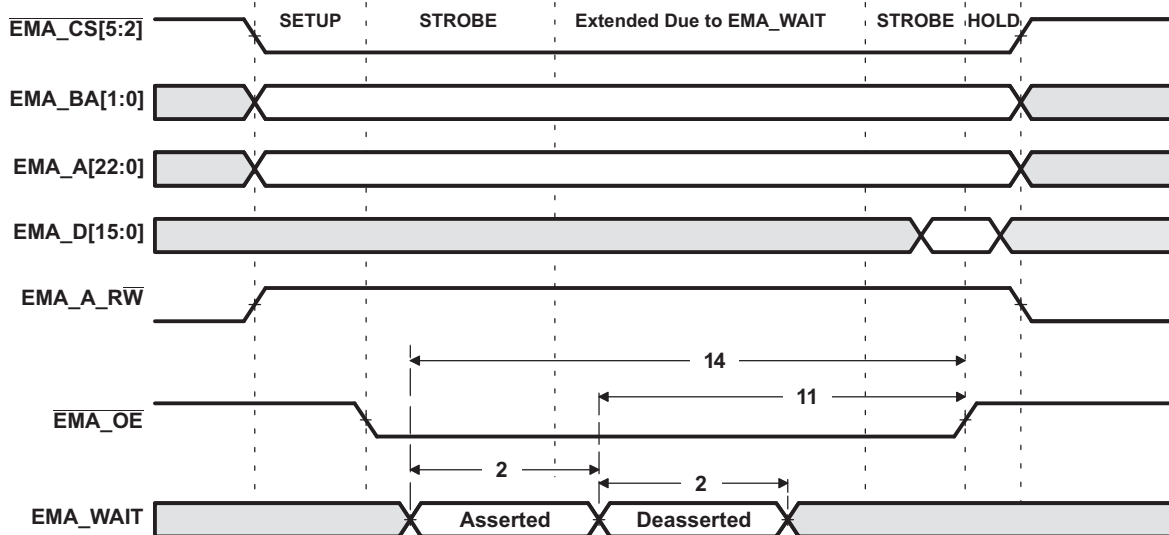
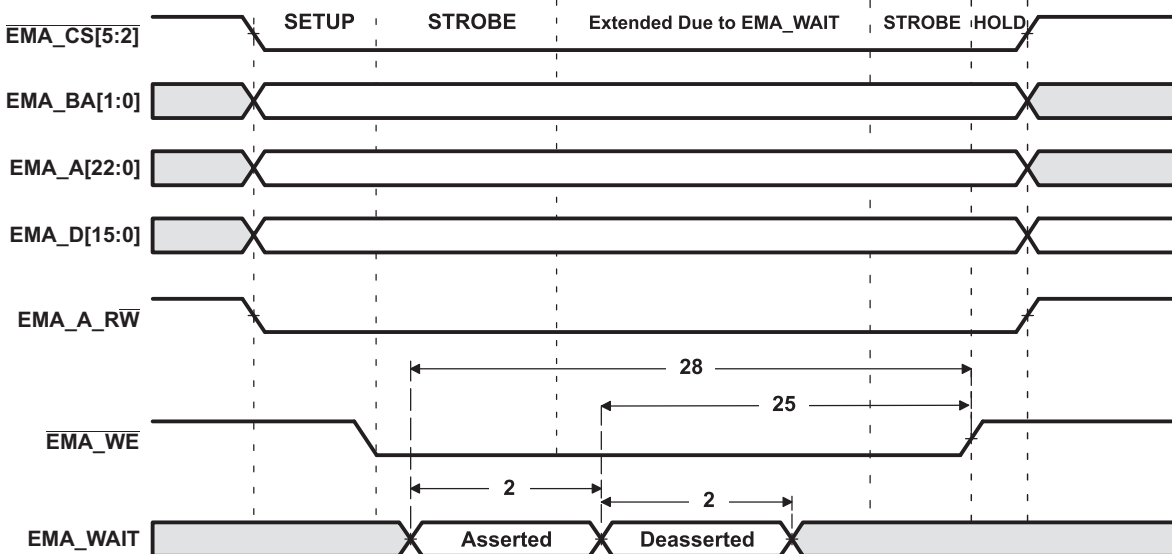

Figure 6-16. EMA\_WAIT Read Timing Requirements
Figure 6-17. EMA\_WAIT Write Timing Requirements
- (1) E = EMA\_CLK period or in ns. EMA\_CLK is selected either as SYSCLK3 or the PLL0 output clock divided by 4.5. As an example, when SYSCLK3 is selected and set to 100MHz, E=10ns
- (2) Setup before end of STROBE phase (if no extended wait states are inserted) by which EM\_WAIT must be asserted to add extended wait states. Figure 6-16 and Figure 6-17 describe EMIF transactions that include extended wait states inserted during the STROBE phase. However, cycles inserted as part of this extended wait period should not be counted; the 4E requirement is to the start of where the HOLD phase would begin if there were no extended wait cycles.